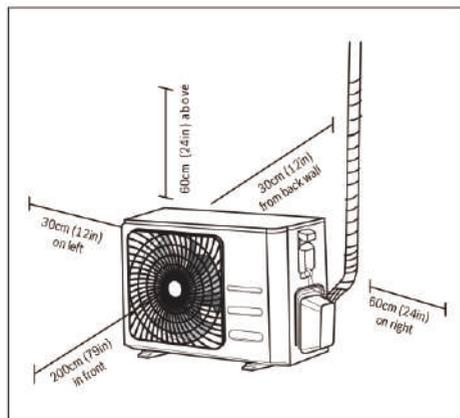

Fig 5.1.1
- Meets all spatial minimum requirements shown in Installation Space Requirements (Fig 5.1.1).